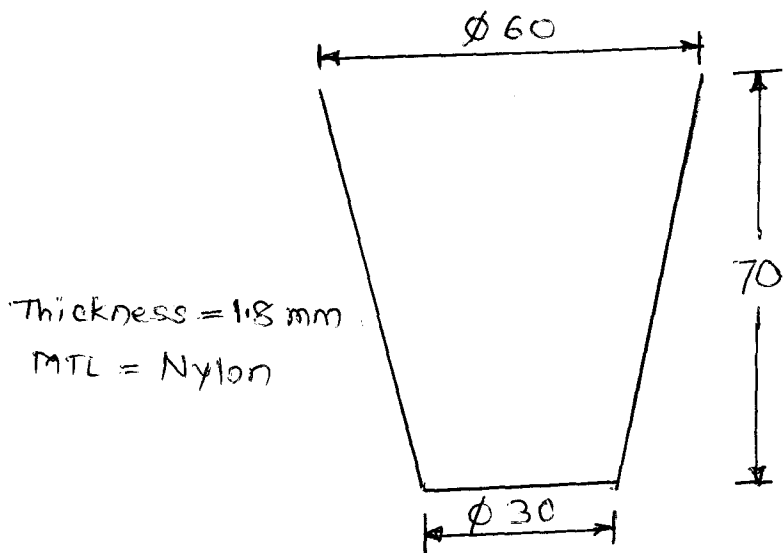

Fig. 3
Q.5 Design an injection moulding die for the components shown in fig. 3. Draw the assembly of the mould. (10)
Q.6 What are the challenges faced in die casting process? Why Al is the most preferred material? (10)